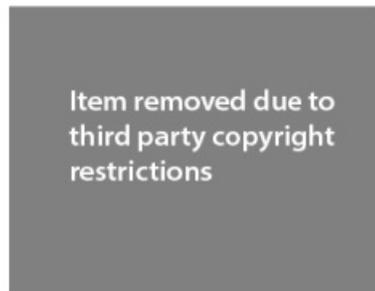

Fig. 3
- 3 Fig. 3 shows a voice-controlled device that can play music, set alarms, control smart home devices, and provide information and news.